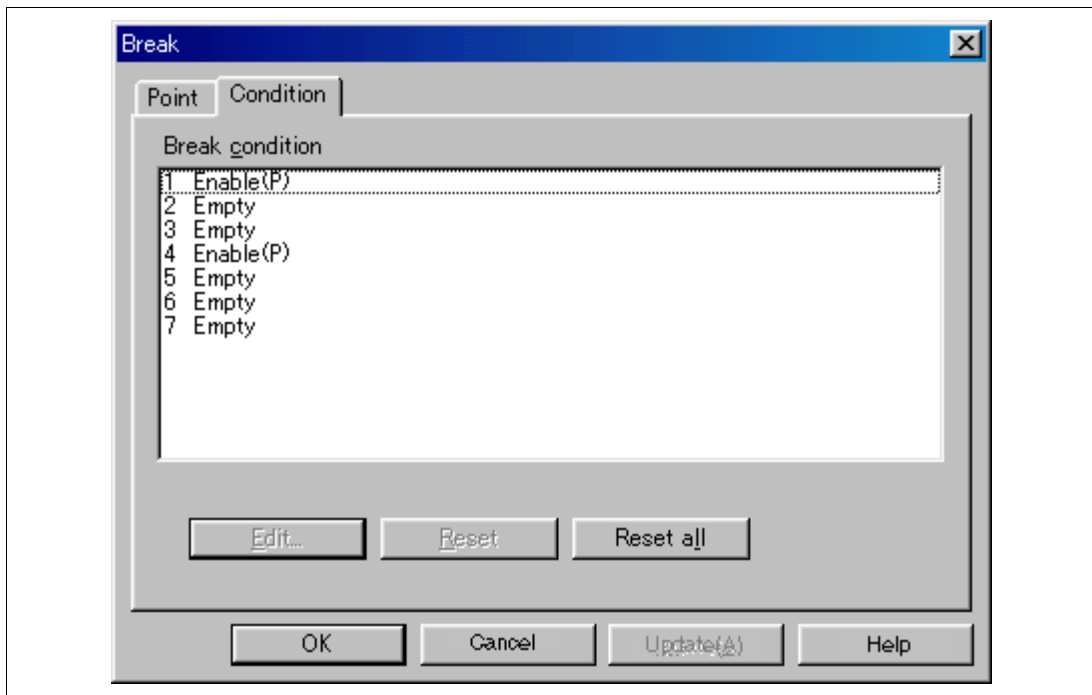

Figure 6.4 [Condition] Page
6. Break Condition 1,4 is used as the measurement range in the performance measurement function when (P) is added as shown in figure 6.4. For setting the performance measurement function, refer to section 6.5.7, SH7750R E10A Emulator Useful Functions. This applies when the Break Condition is displayed with the BREAKCONDITION_DISPLAY command in the command-line function. In this case, a break does not occur when Break Condition 1,4 is satisfied.